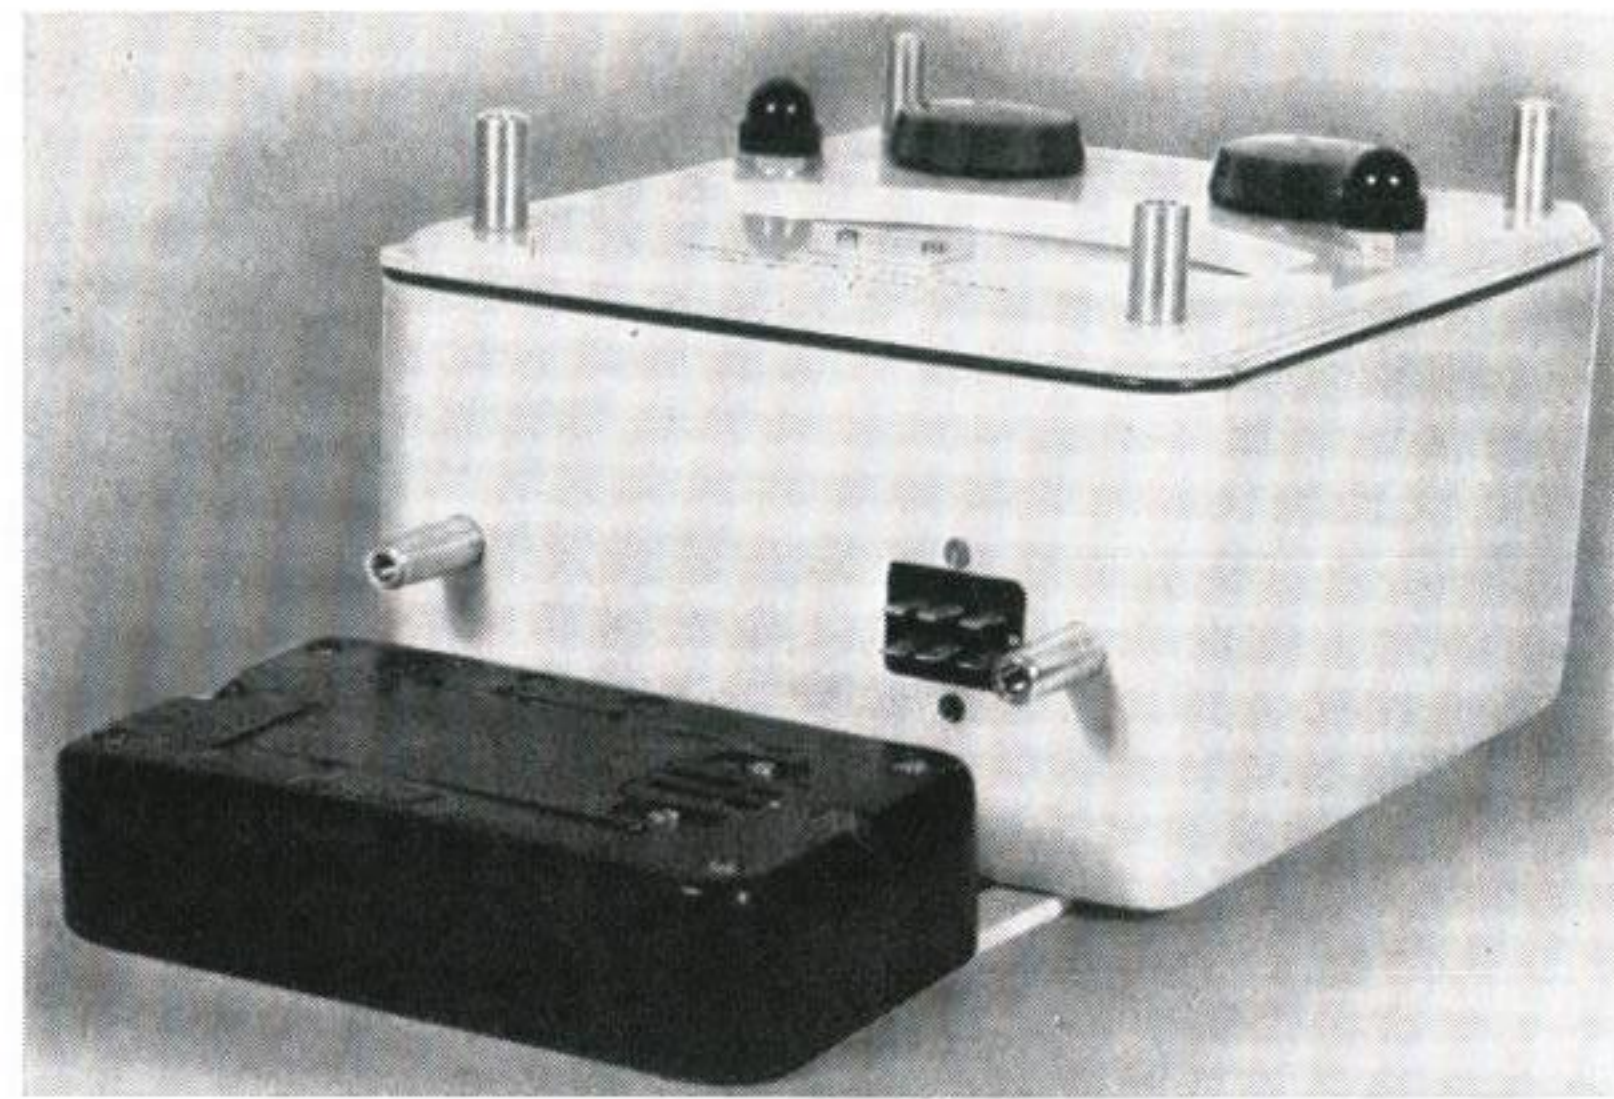

Fig. 11. The Battery Pack removed from the indicator unit. Note the six contacts projecting from the indicator unit and corresponding slots in the pack.
- (b) Withdraw the pack by pulling down on either side by means of the recesses in the moulding (fig. 11).